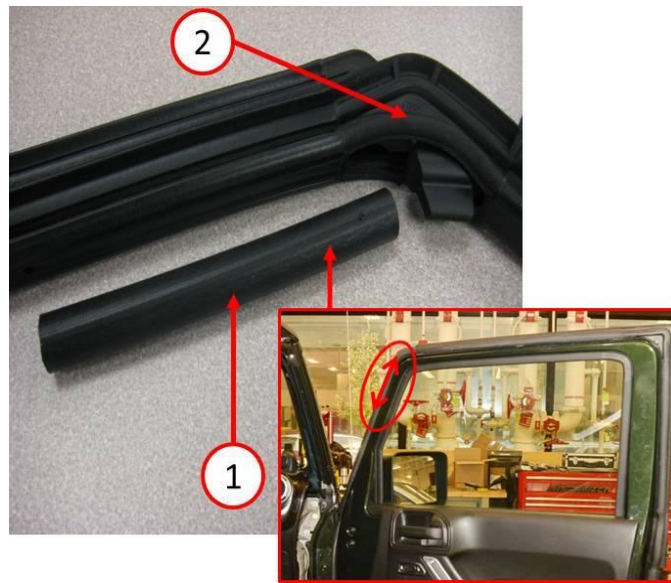

Fig. 13 Install New Door Stuffer
22. Insert the new stuffer (1) into the weather strip where existing was removed (Fig. 13).